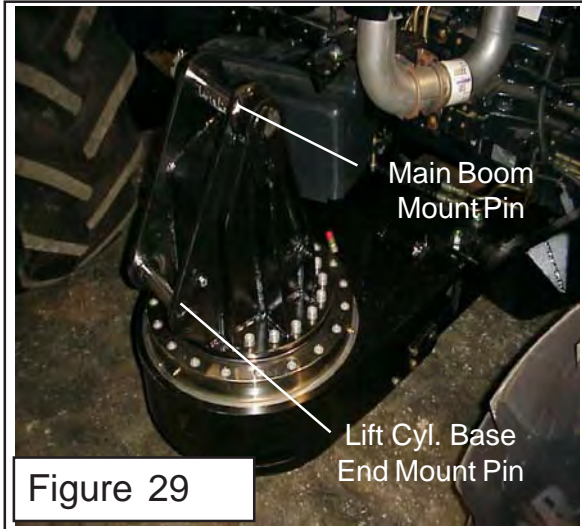

Figure 29
9. Reinstall boom mount and turret assembly back on tractor if it was removed. This is done by lowering the assembly onto tractor mounting frame and installing the upper pin and the two lower pins. Reconnect the swing cylinder hoses to the hoses that come up through the boom mount (See Figure 29).